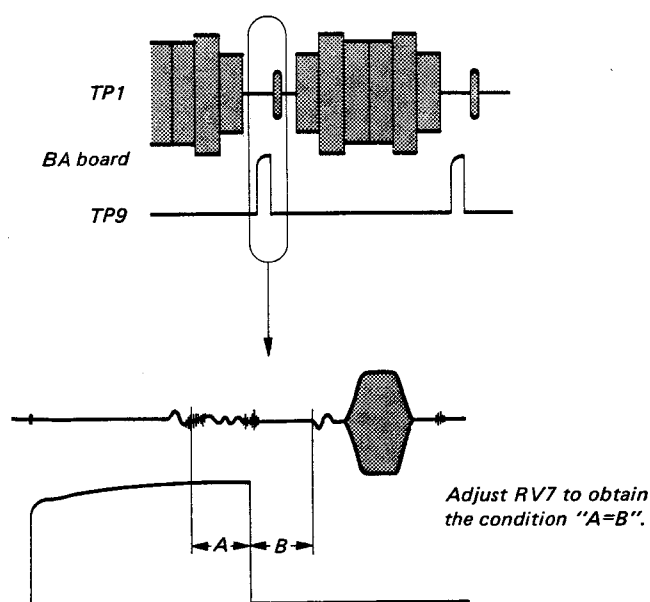

Fig. 5-100.
5. Adjust RV7 on the BA board so that the output waveform is as shown in Fig. 5-100.